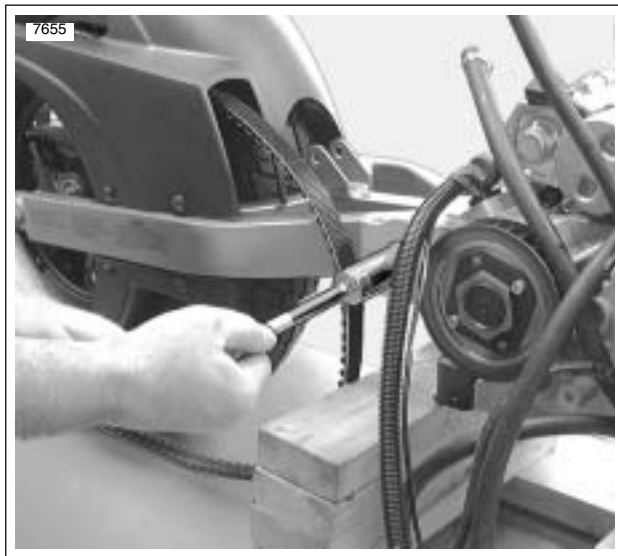

Figure 3-19. Swingarm Pivot Shaft
37. See Figure 3-19. Remove swingarm pivot shaft and rear wheel as an assembly. See 2.19 SWINGARM.